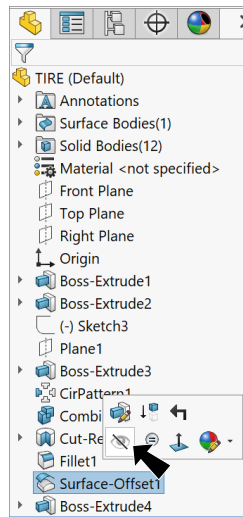

Fig. 62
Step 1. **Hide Surface-Offset1** , **Fig. 62**.